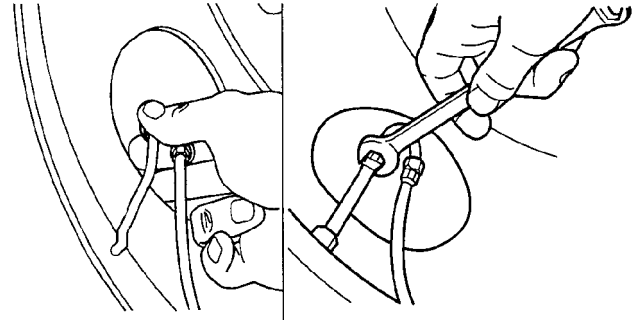

Figure 57: Reattaching tire hoses to tire valve stem
6. **Attach** tire hose(s) to tire valve stem(s) and tighten finger tight (Figure 57).
7. Using a $\frac{7}{16}$ inch wrench, **tighten tire hose/valve stem connection** an additional one-half turn (Figure 57).